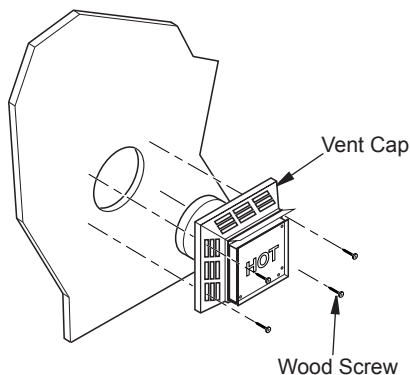

Figure 13 - Installing Horizontal Vent Cap (Noncombustible Exterior)
6. **Noncombustible Exterior Wall:** Position the horizontal vent cap in the center of the 8 1/2" round hole and attach to the exterior wall with four wood screws provided. Before attaching the vent cap to exterior wall, run a bead of non-hardening mastic (pliable sealant) around the outside edges to make a seal between it and the outside wall. **Note:** The four wood screws provided should be replaced with appropriate fasteners for stucco, brick, concrete or other types of sidings (see Figure 13).